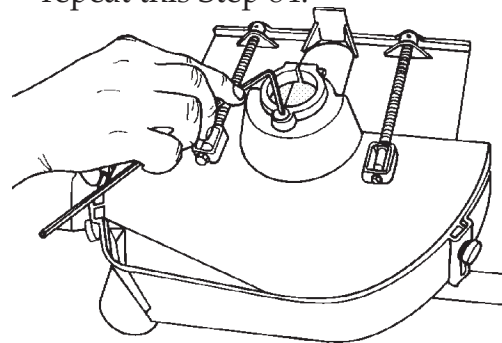

Figure B-112
- Use a 5/32" Allen wrench to adjust the stop screw (211) located below the lower saw guard's collar, see Figure B-112.